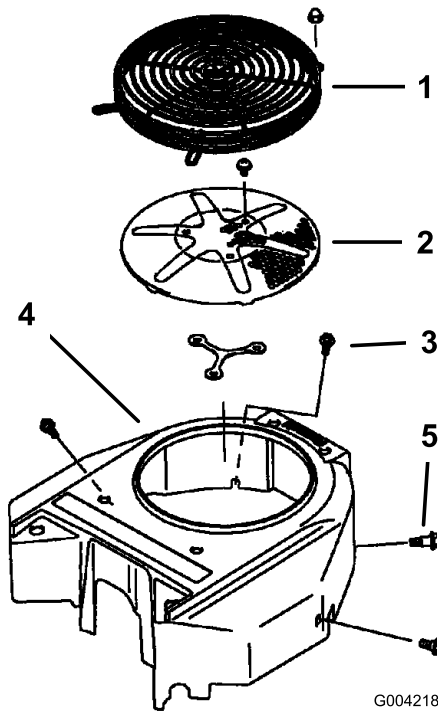

Figure 76
Before each use, remove any buildup of grass, dirt, or other debris from the engine screen. This will help ensure adequate cooling, correct the engine speed, and will reduce the possibility of overheating and mechanical damage to the engine (Figure 76).
3. Remove the air-intake screen, the recoil starter, and the fan housing (Figure 76).
5. Install the air-intake screen, the recoil starter, and the fan housing (Figure 76).